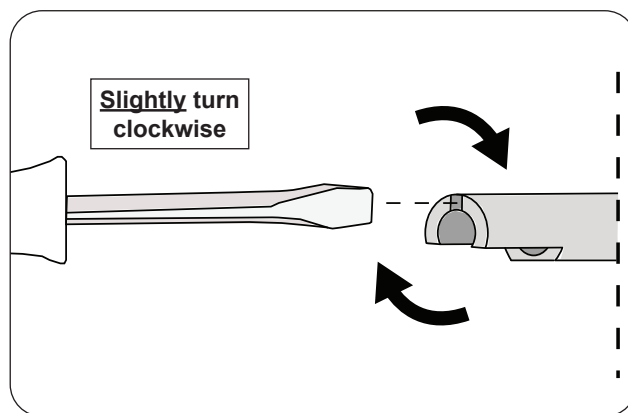

Fig. 49-2 Stem adjustment
2. Insert a flathead screwdriver into the split portion of the stem and **GENTLY** turn the screwdriver clockwise. Be cautious! Only a slight turn is needed as the stem is flexible. See Fig. 49-2.